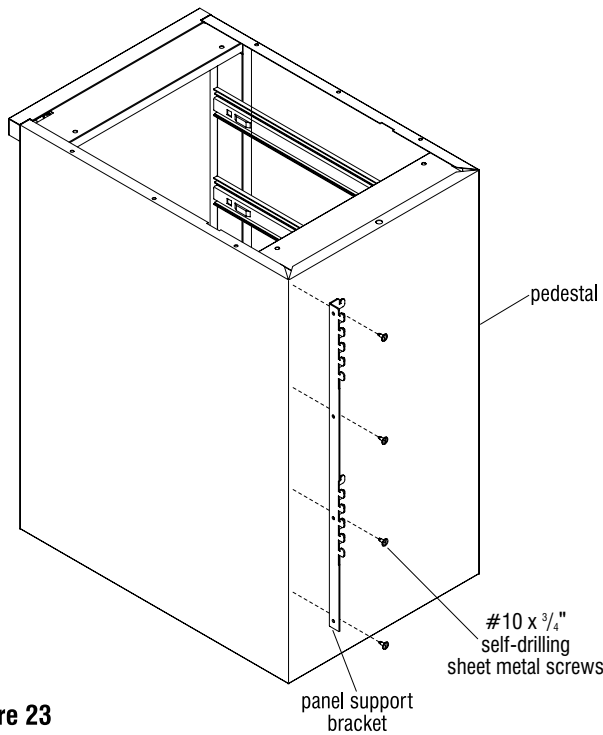

Figure 23
1. Position the panel support bracket squarely along the top and side edge of the pedestal as shown, making sure that the teeth are facing up (Figure 23).
**Note:** For left-hand installations align the bracket with the left side of the cabinet. For right-hand installations align the bracket with the right side of the cabinet (Figure 23).
2. Using the four #10 x 3/4 inch self-drilling sheet metal screws, carefully secure the bracket to the cabinet (Figure 23).